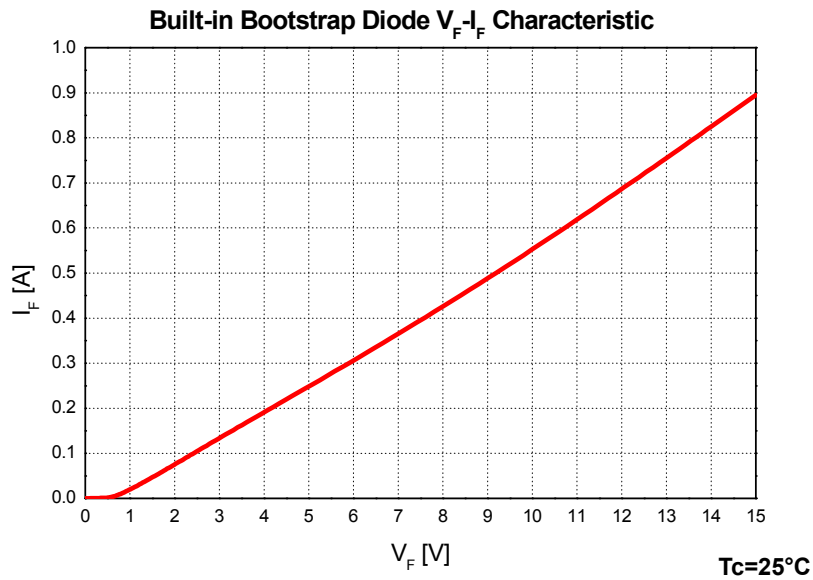

Figure 2. Built-in Bootstrap Diode Characteristics (Typical)
- Built-in bootstrap diode includes around 15Ω resistance characteristic. Please refer to Figure 2.